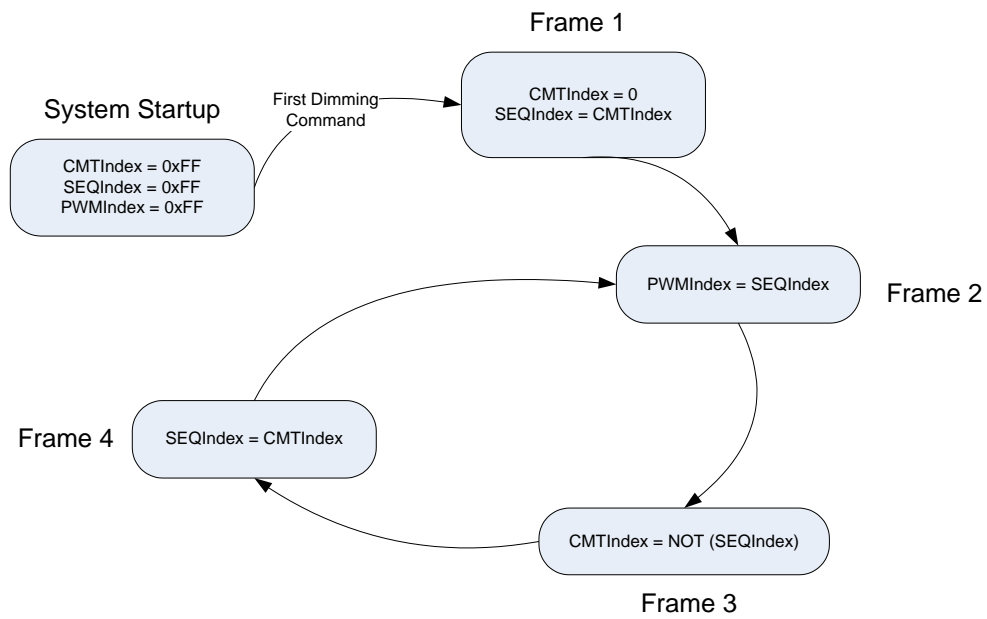

Figure 8-13. Index Variable
Initially all three variables are set with invalid values (0xFF in code) which is mentioned as “Not Set” state in the diagrams and explanations shown in previous sections of this document. The valid values are 0 and 1 (array indexes). When the first dimming command is received, the state of all three index variables will be 0xFF (not-set/invalid). This indicates that we are in first frame of the first dimming command. The `CMTIndex` is set to 0 (first array index) and then the data is fetched from queue into the `DIM_Params[CMTIndex]` or in other words the first location of `DIM_Params[]` array. The `CMTNo` is then written to CMT ASIC register. After this the `SEQIndex` variable is updated to 0 (same as `CMTIndex`). Thus in the second frame, `SEQIndex` has a valid value (0), and `DIM_Params[SEQIndex]` contains the same dimming data that was used while doing CMT update. In this second frame, both `SEQNo` and `LDCNo` that were computed during dimming and stored in `DIM_Params[SEQIndex]` are written to ASIC registers. Once the SEQ and LDC update is also done in this second frame, the `PWMIndex` is set to `SEQIndex`. The third frame will update the PWMs from `DIM_Params[PWMIndex]`. This continues on and on. The Figure 8-13 shows how the values of all three indexes change.